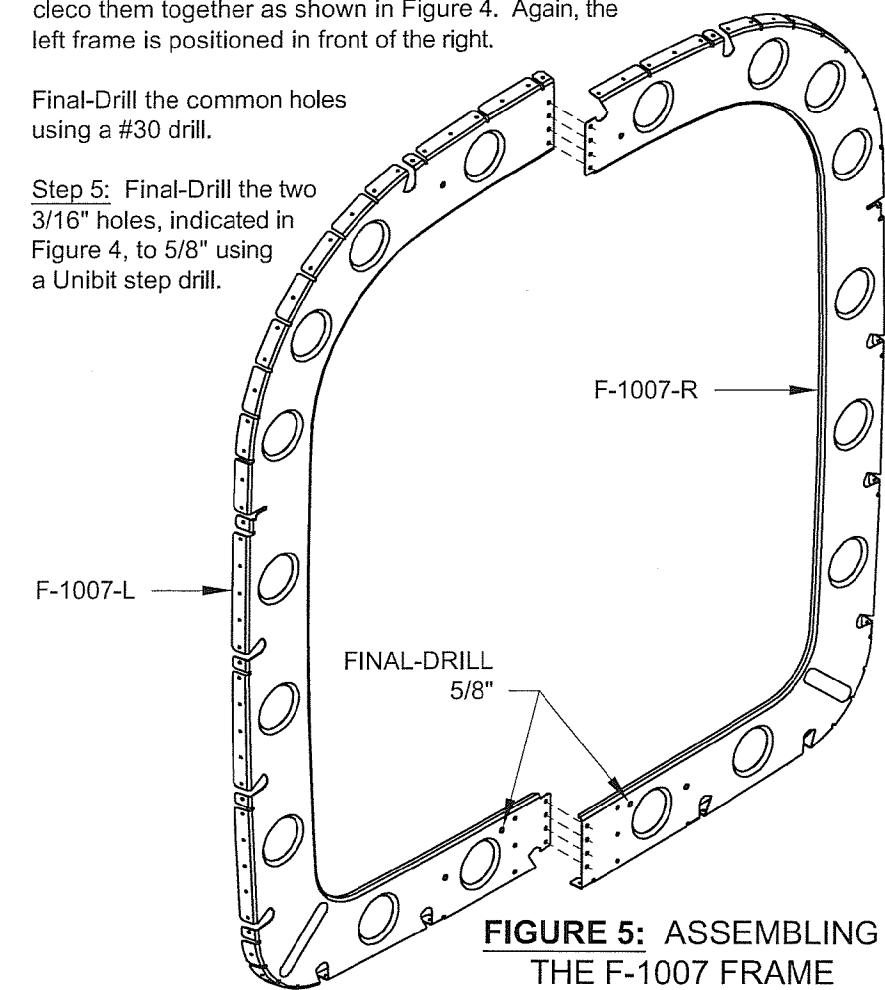

**FIGURE 4:** ASSEMBLING THE F-1008 FRAME
Step 4: Deburr and flute the F-1007-L & -R Frames, then cleco them together as shown in Figure 4. Again, the left frame is positioned in front of the right.
Step 5: Final-Drill the two 3/16" holes, indicated in Figure 4, to 5/8" using a Unibit step drill.